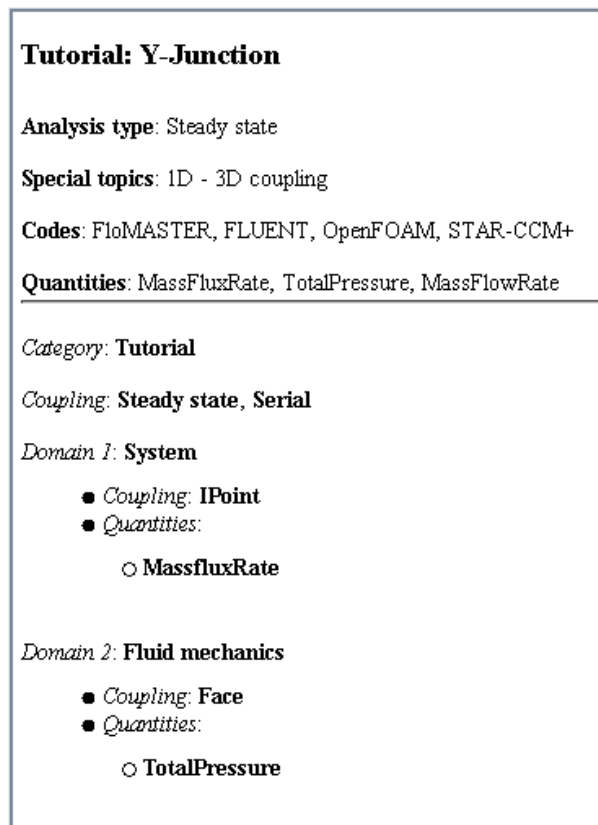

Figure 4: Coupling specification Y-Junction
Figure 4: Implicit coupling in more detail: displacement of the bearing point (left) and relative variation of inner iterations (right), used to judge the convergence
Figure 4 (left) shows the displacement of the coupled point for the implicit coupling scheme in more detail. At the end of each time step the displacement is plotted for every inner iteration, distributed over the time step. The relatively big changes during the first iterations can be seen; then – depending on the stopping criteria used – the solution remains more or less constant and the next time step is started.
On the right hand side of Figure 4 the relative variation for the inner iterations – which is used to judge the convergence of the implicit scheme – is plotted. At the start of each new time step there is a peak, which gets smaller during the following inner iterations. This plot helps to adjust the convergence tolerance to a sensible and problem adapted value.
2. Select the Tutorial coupling specification Y-Junction which offers a preconfigured setting for this tutorial (see Figure 4). Alternatively you can select the General coupling specification General two-domain coupling and do the required settings manually (cf. ▷ V-4.5.1 Category: General ◁).